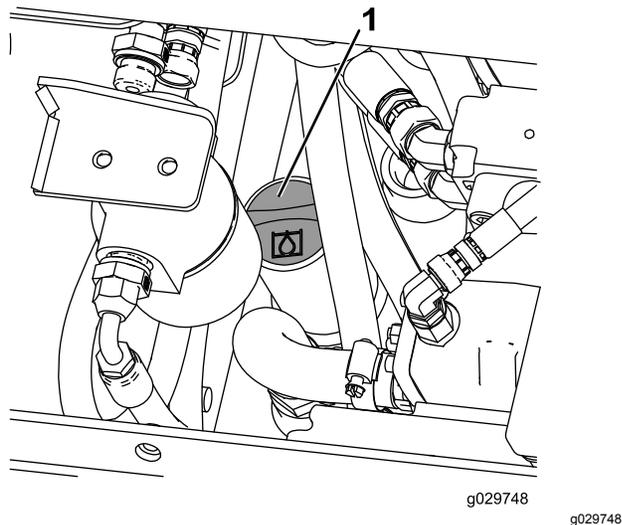

Figure 69
7. Clean the area around the filler neck of the hydraulic tank (Figure 69).